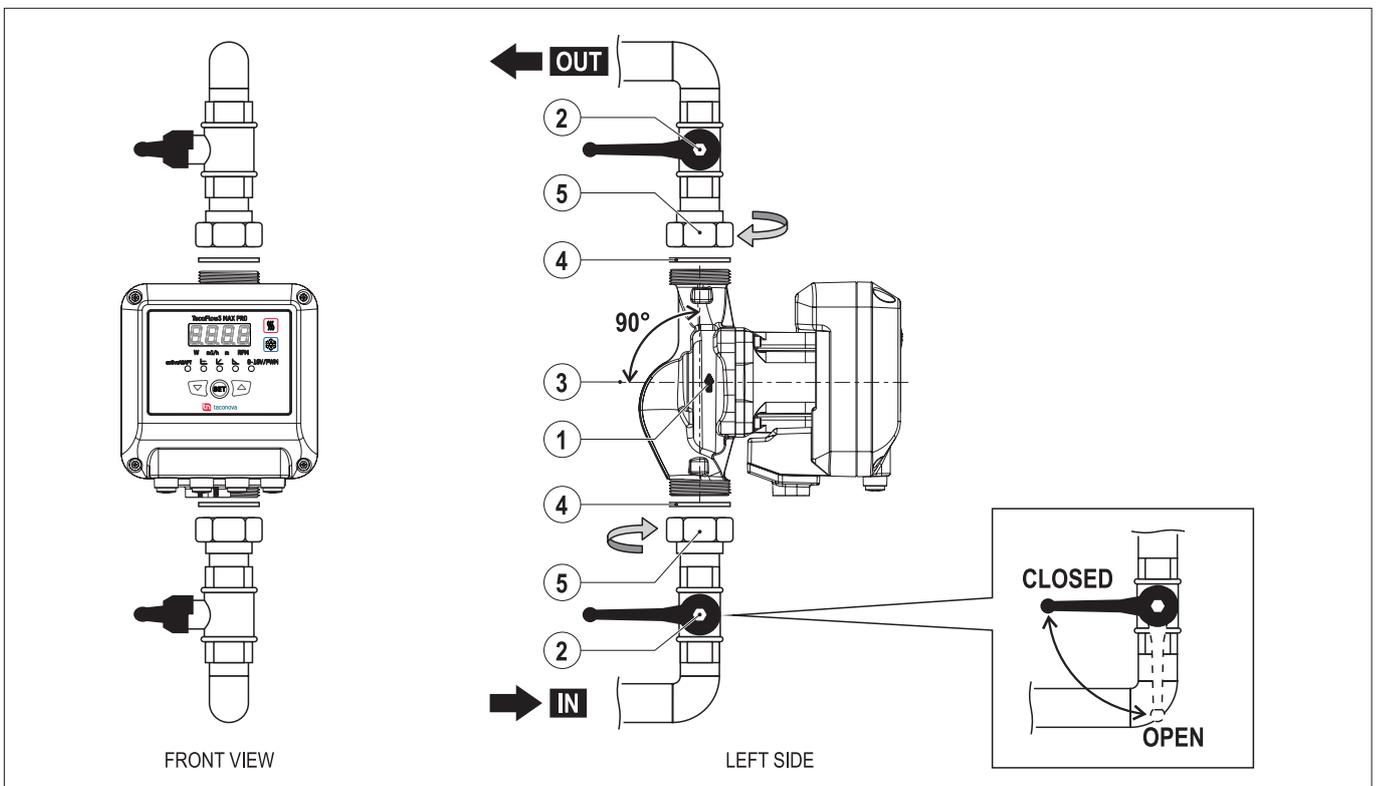

FIG. 9 (Assembly)
- 1) Check the water flow direction indicated by the arrow on the circulator (FIG. 9 - Ref. 1).
- 2) Close the shut-off valves (FIG. 9 - Ref. 2).
- 3) Place the circulator on the pipes without creating tension and with the motor shaft positioned horizontally (FIG. 9 - Ref. 3).
- 4) Insert the gaskets (FIG. 9 - Ref. 4).
- 5) Screw the unions with suitable equipment (FIG. 9 - Ref. 5) on the circulator.